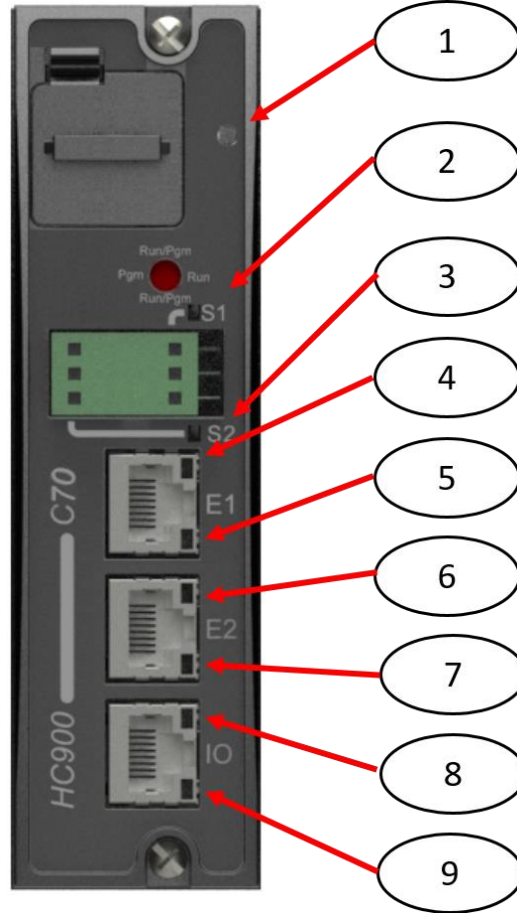

Figure 101 – LED Indicators on Controller CPUs (See Table 28)
When the Controller has a flashing amber status LED after power-up a critical, power-on-self-test, error has occurred that requires controller module replacement. When the Controller Status LED (Figure 101 on page 184, item 1) is flashing red, consult